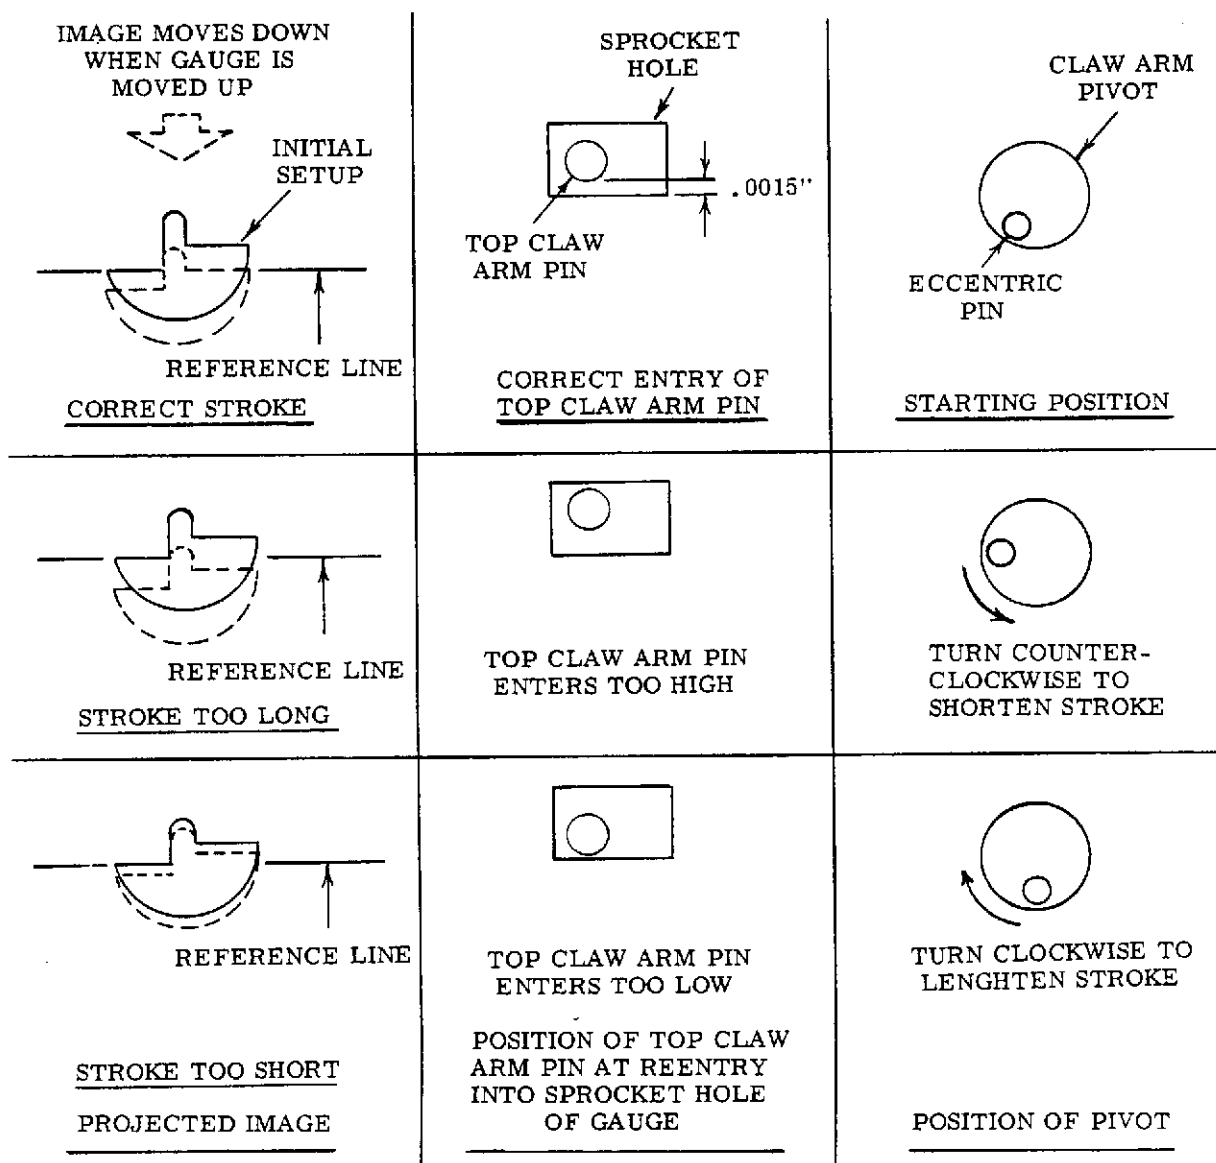

Figure 3-31. CLAW PULL DOWN STROKE ADJUSTMENTS
10. Adjust stroke by placing the Shuttle Cam Adjusting Tool (ST-5884) on the Claw Arm Pivot (18) (Figure 3-26), loosening Screws (14) and (19) and rotating the Pivot (18) and the Bushing (8) the same amount in the same direction simultaneously. Turn counterclockwise (as viewed from the front of the projector) to shorten the stroke, and clockwise to lengthen the stroke. (Figure 3-31)